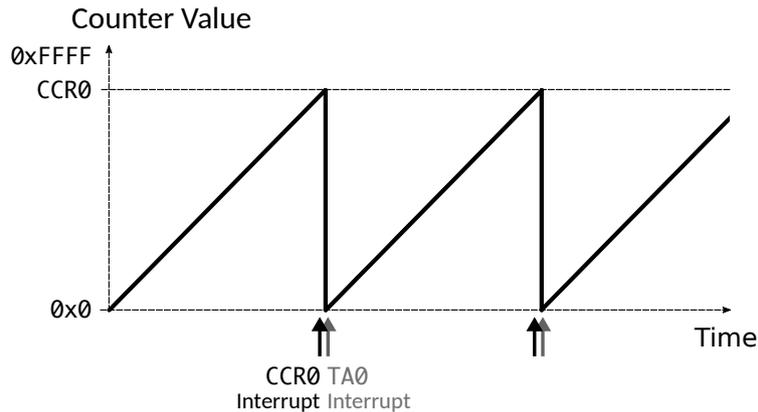

Figure 12: A timer in UP-mode and the corresponding interrupts.
- **Up:** The Up-mode is visualized in Figure 12. This is the mode which is used in this lab. In this mode, the counter value is continuously incremented up to a value defined in the first capture and compare register (CCR0). The counter is reset to 0 each time the value in CCR0 is reached. In this mode, two separate interrupts are generated which are only 1 cycle apart (if enabled). First the CCR0 register generates an interrupt when the maximum value has been reached (CCR0 Interrupt). One cycle later, the timer generates an interrupt because the timer is reset to 0 (TA0 Interrupt).